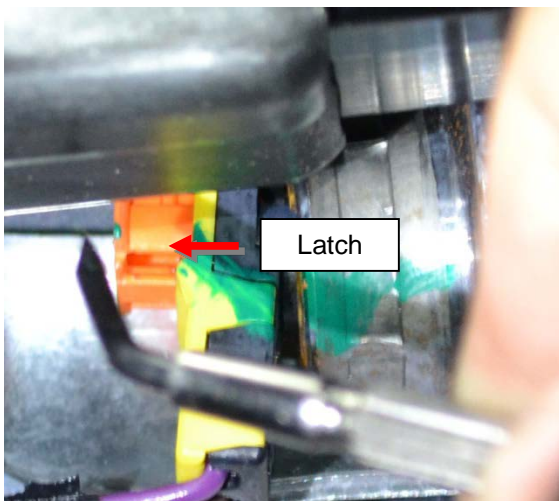

Figure 9
3. Use a pick or similar tool to pull out the latch on the curtain airbag harness connector (Figures 9 and 10). Disconnect the harness.